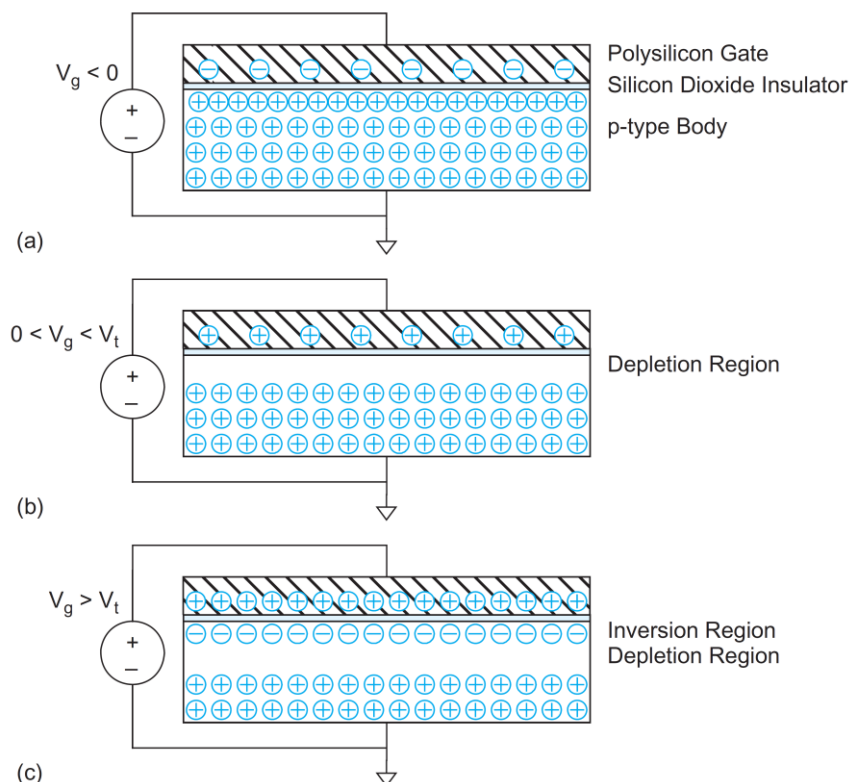

Figure 2: MOS structure demonstrating (a) accumulation, (b) depletion, and (c) inversion layer
- ✓ A pMOS transistor is ON when the gate is low(0) and OFF when the gate is high(1).
- ✓ Figure 2 shows a simple MOS structure. The top layer of the structure is a good conductor called the gate.
- ✓ The figure 2 shows a p-type body, in which the carriers are holes. The body is grounded and voltage is applied to the gate.
- ✓ In Figure 2(a), when a negative voltage is applied to the gate, negative charges are formed on the gate.
- ✓ In Figure 2(b), when a small positive voltage is applied to the gate, positive charges are formed on the gate.
- ✓ In Figure 2(c), when a higher positive potential greater than threshold voltage ( $V_t$ ) is applied, more positive charges are attracted to the gate.